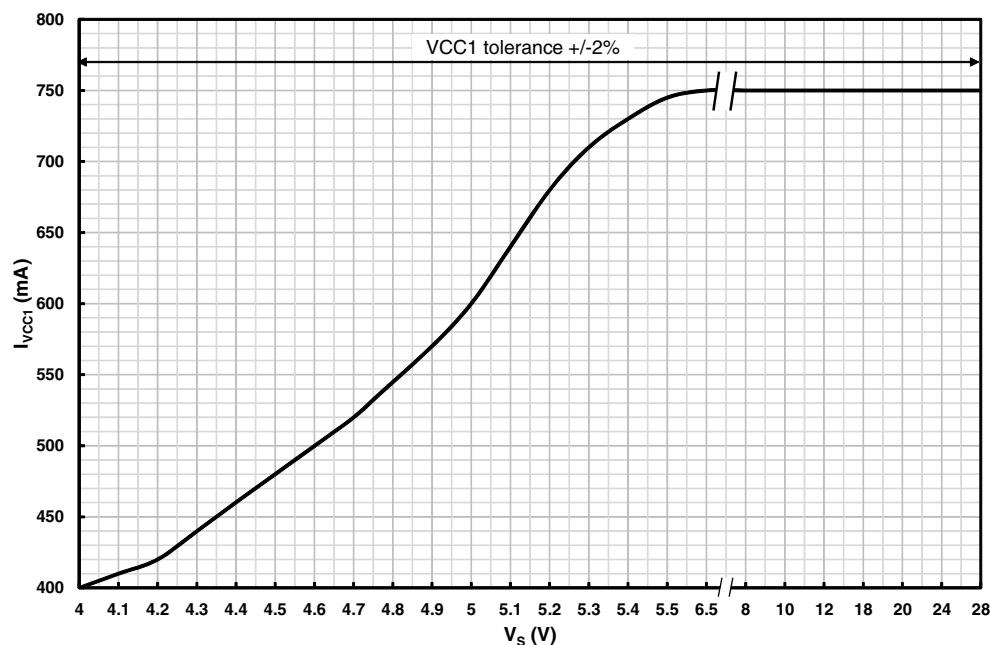

Figure 13 Maximum DCDC Buck current capability versus V_S
- PWM Mode (Pulse Width Modulation): This mode is available in SBC Normal Mode, SBC Restart Mode and SBC Stop Mode (only for automatic or manual PFM to PWM transitions. Refer to Chapter 6.2.2). In PWM, the Buck converter operates with a fixed switching frequency (f_{BUK}). The duty cycle is calculated internally based on input voltage, output voltage and output current. The precision is $\pm 2\%$ on input supply and output current range (refer to Figure 13 for more information). In PWM Mode, the Buck converter is capable of a 100% duty cycle in case of low V_S conditions. In order to reduce EMC, the edge shaping feature has been implemented to control the activation and deactivation of the two power switches.
Note: **Figure 13** is based on characterization results overtemperature with external components specified in Chapter 14.1.